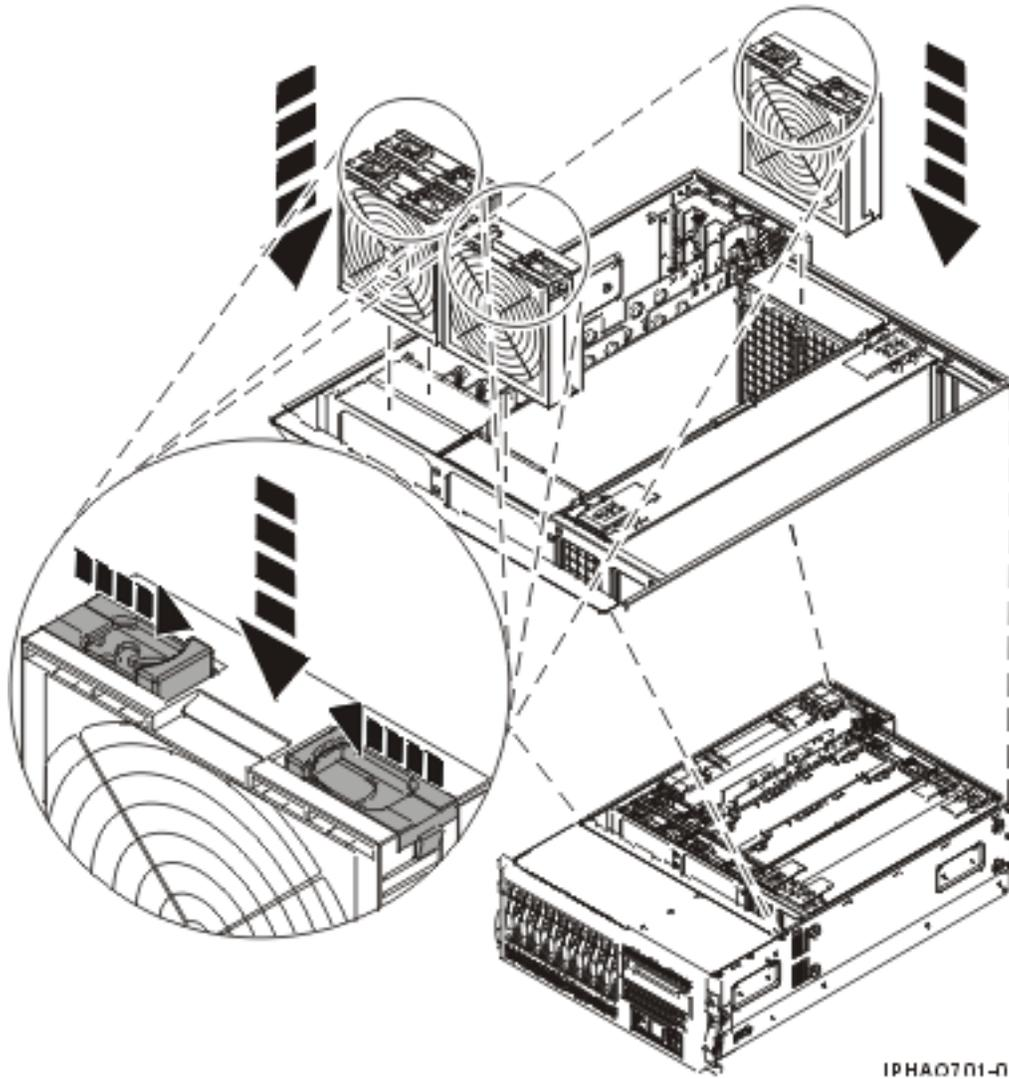
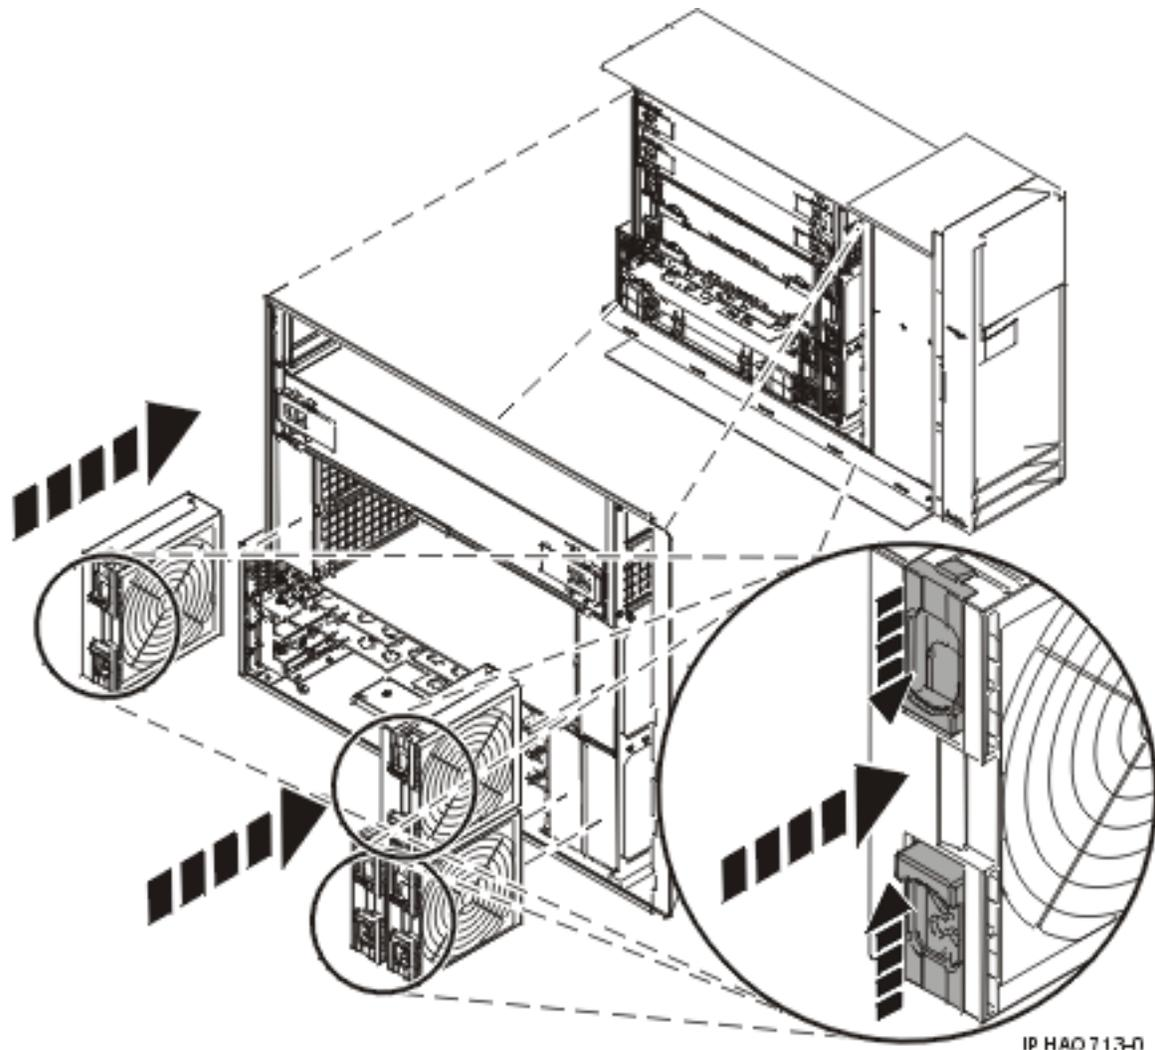

Figure 32. Replacing the system unit fan in a rack-mounted system
Figure 33. Replacing the system unit fan in a stand-alone system
4. As shown in Figure 32 on page 34 and Figure 33 on page 35, hold the locking tabs in the open position as you place the fan into the system.